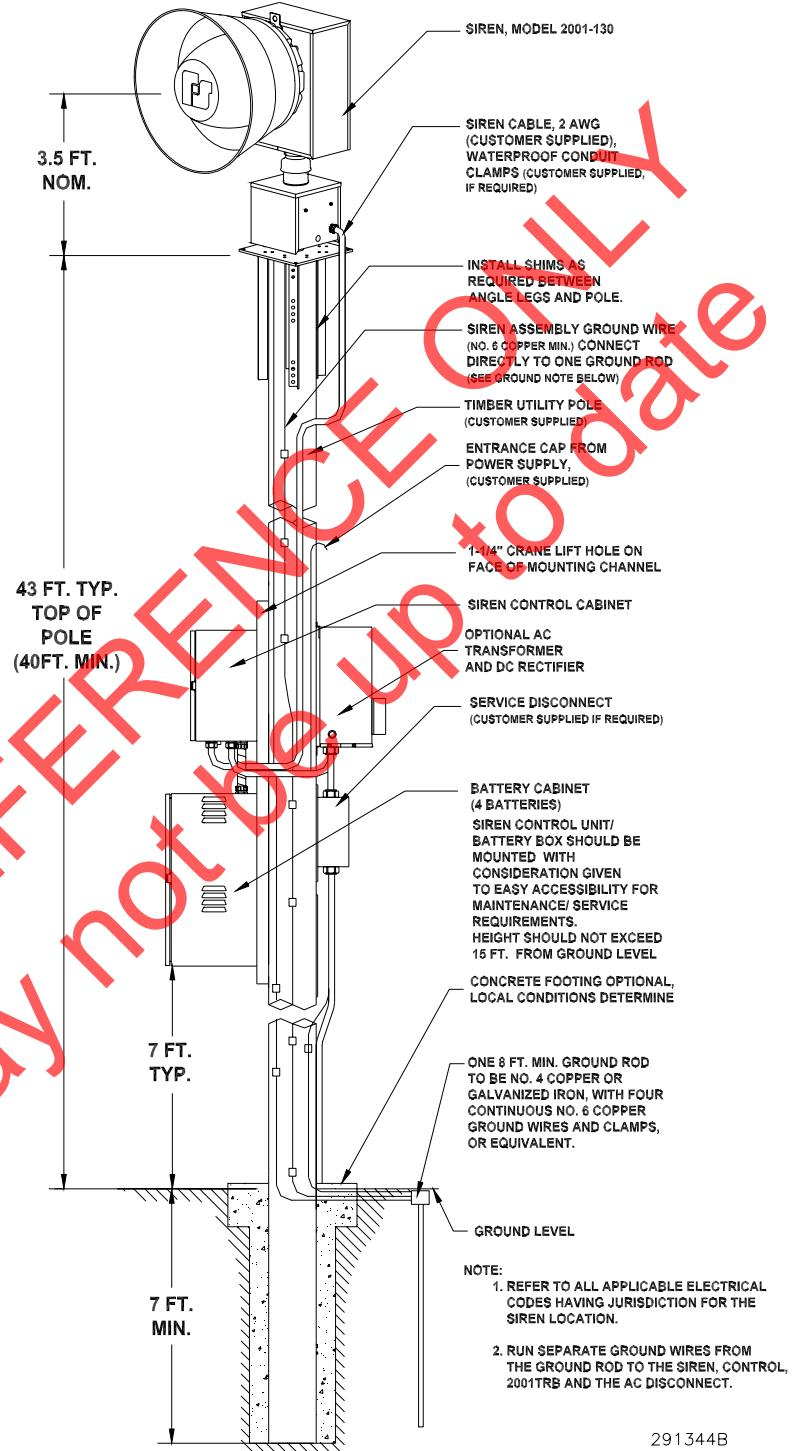
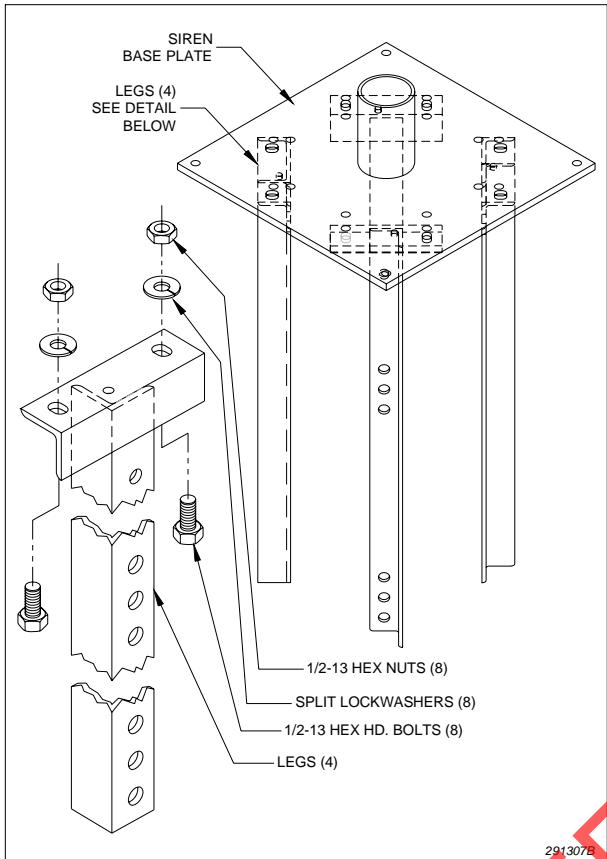

Figure 3-1. Typical Pole-mounted Installation
Figure 3-2. Siren Leg Assembly.
A typical siren pole-mounted installation is shown in *Figure 3-1*. The siren is mounted on a Southern Yellow Pine, Douglas Fir or equivalent Class 2 utility pole 40-50 ft. above the ground. It is attached to the pole by means of legs, as shown in *Figure 3-2*.
2. Install the four legs on the siren mounting plate, as shown in *Figure 3-2*. Use two 1/2" bolts, nuts and lockwashers (provided) for each leg. Do not tighten the bolts completely.